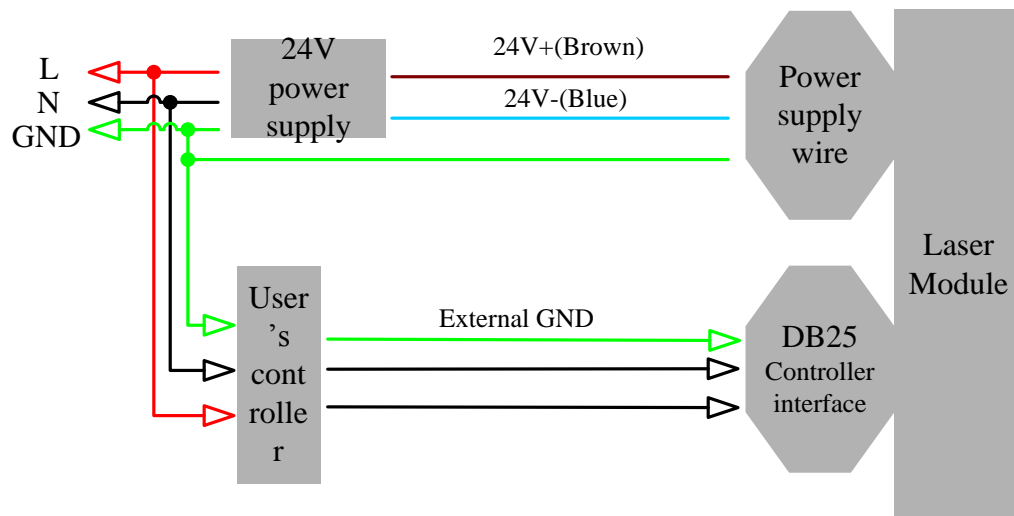

Figure 4. Schematic of recommended electrical connection
- c) Make sure that the interface of the external controller matches the laser and the control cable is well connected to the laser's interface. The recommended electrical connection is shown in Fig. 4.